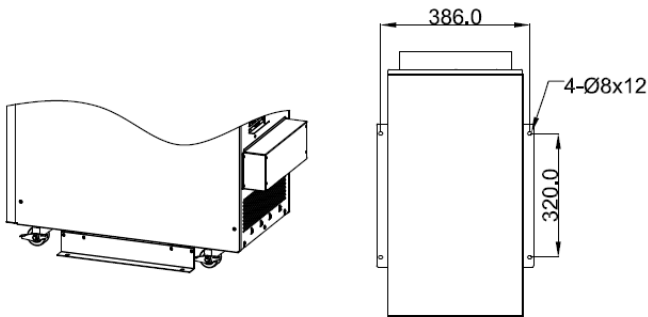

Fig.4-1 Additional stability
- Once the installation is completed, the side mounting brackets (used in shipping) shall be fixed back to ensure the stability of the UPS enclosure. If impossible, additional stability can be added by anchoring the mounting brackets to the floor with M8 bolts. See Fig.4-1.